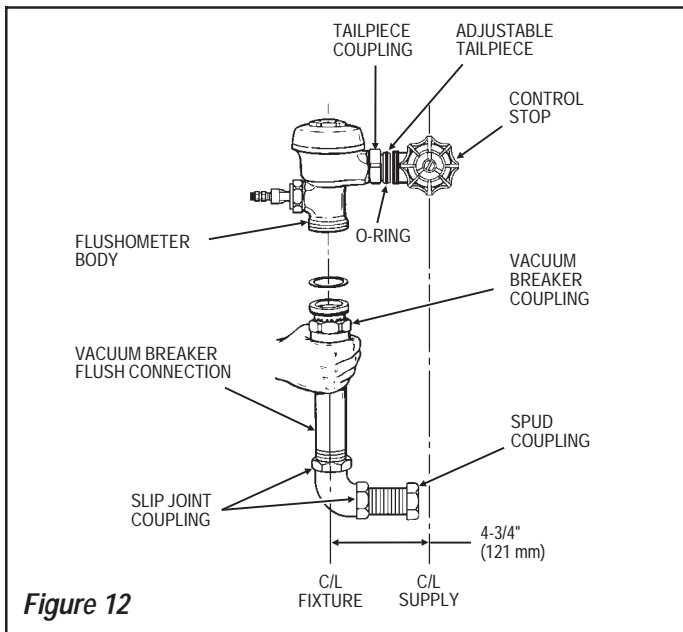

Figure 12
**ALL FLUSHOMETER INSTALLATIONS (Figure 12)**